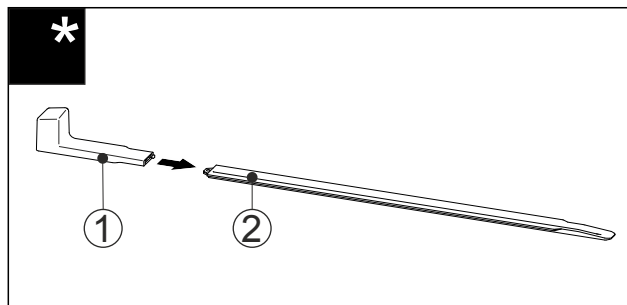

Fig. 63
- Attach the installation handle Fig. 63 (1) to the levelling rail Fig. 63 (2).